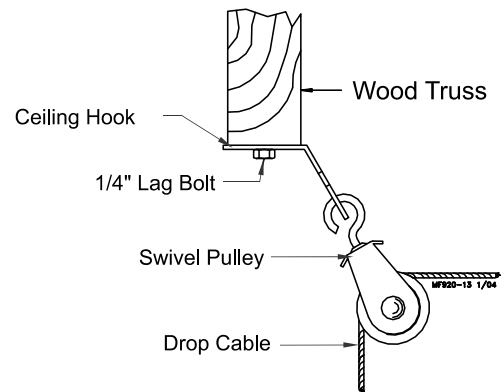

Figure 16. Pulley Installation
5. After securing the Ceiling Hook to the truss, slide the hook of a Swivel Pulley into the slot, as shown in **Figure 16**.